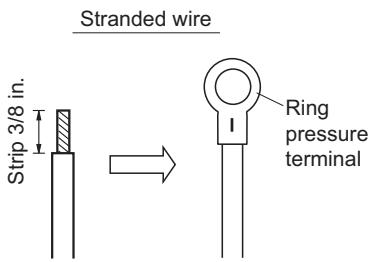

Fig. 1-1
- 1 (1) Cut the wire end with a wire cutter or wire-cutting pliers, then strip the insulation to expose the stranded wiring about 3/8 in. (Fig. 1-1)
- (2) Using a Phillips head screwdriver, remove the terminal screw(s) on the terminal plate.
- (3) Using a ring connector fastener or pliers, securely clamp each stripped wire end with a ring pressure terminal. (Fig. 1-1)